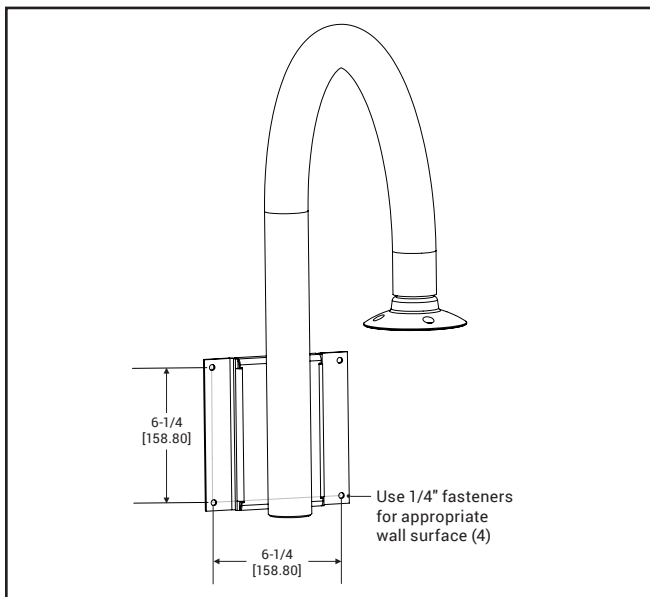

Figure 8.
3. Make wire connections and secure Bishop arm to wall. Mounting hardware by others. See Figure 8 for mounting dimensions.